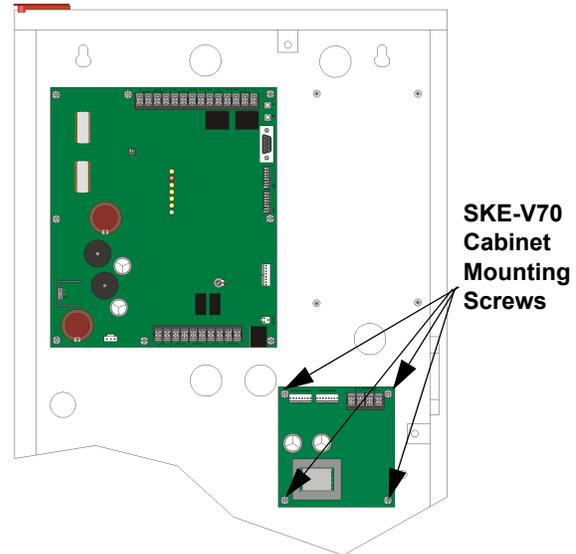

Figure 2: Main Control Board Mounting Location
4. Mount the module into the cabinet as shown in Figure 2.